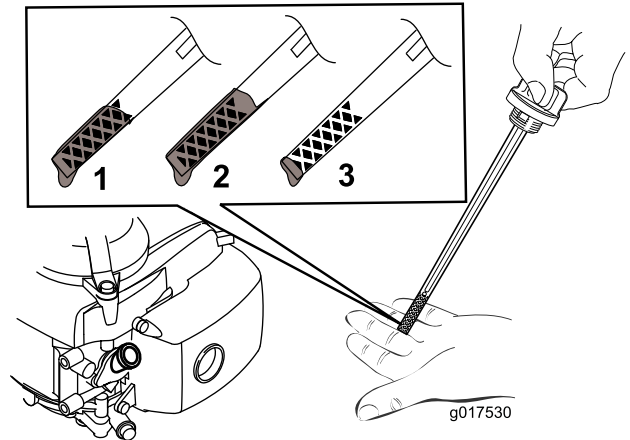

Figure 10
5. To determine the proper oil level on the dipstick, refer to Figure 10).
Note: Fill the engine crankcase with oil until the dipstick indicates that the engine oil level is correct as shown in Figure 10. If you overfill the engine with oil, remove the excess oil as directed in Changing the Engine Oil.